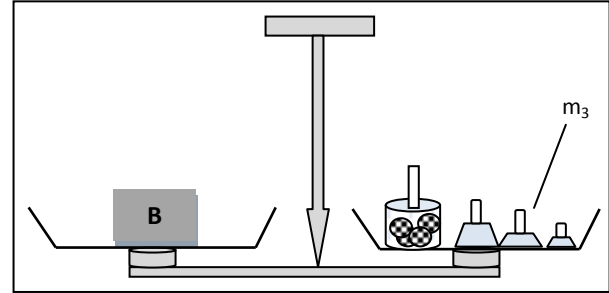

Figure 4.3
c. The third weighing (Figure 4.3)